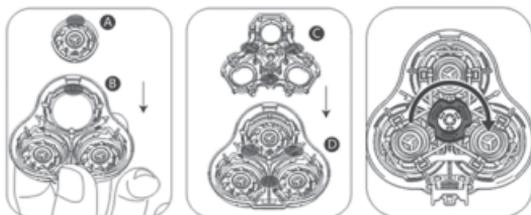

Рис. 3
- Detach the clamping frame from the shaving heads blades (2).
- Remove the blade from the shaving head mesh (2).
Shaving heads (2) installation (fig. 3)
- Match the groove **A** on the mesh with the ledge **B** on the shaving block (3) and insert it.